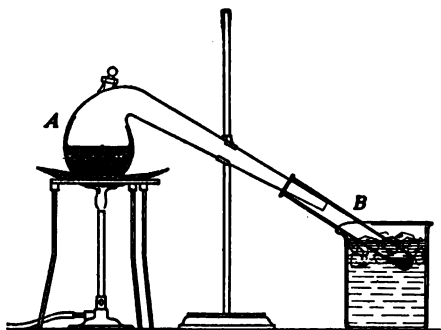

FIG. 40
**82. Preparation of nitric acid.** *a.* Arrange an apparatus as shown in Fig. 40. The retort *A* should have a capacity of from 100 to 150 cc. Put into the retort about 12 g. of sodium
**102. Preparation and properties of bromine.** (*The vapor of bromine must not be inhaled. Perform the experiments in a hood.*) *a.* Use the apparatus employed in the preparation of nitric acid (Fig. 40). Put into the retort a mixture of 2 g. of potassium bromide or sodium bromide and 4 g. of manganese dioxide, and add to this through a funnel a cold dilute solution of sulfuric acid, prepared by slowly adding 5 cc. of sulfuric acid to 10 cc. of water. Shake the retort so as to mix the contents thoroughly. The test-tube receiver should contain sufficient water to allow the end of the retort to dip just below its surface. Now heat the retort gently. The bromine is liberated and distills over (*R*). Continue the heating until all the bromine has been collected.
**b.** Dissolve in water a crystal of potassium bromide or of sodium bromide and apply the silver nitrate test for chlorides (§ 100). Describe the results (R).
**104. Preparation and properties of iodine.** In a large test tube place a mixture of 2 g. of potassium iodide and 4 g. of manganese dioxide. Pour over this mixture 5 cc. of sulfuric acid, place an empty funnel in the tube to serve as a loose stopper, and apply a gentle heat (R). Note the vapor of the iodine and the grayish-black crystals which are soon deposited on the sides of the test tube. What property does the name of the element suggest? Half fill two test tubes with starch solution. Add to the first a few drops of a solution of iodine prepared by shaking a small crystal in water. To the second add a few drops of an aqueous solution of potassium iodide. Note the results. Now add to the second tube a little chlorine water (R). Does the chlorine water alone change the starch? Explain the results. Add about 2 cc. of carbon tetrachloride, and shake the mixture. In which solvent is the iodine more soluble? Dissolve a crystal of iodine in alcohol. This solution is called tincture of iodine.